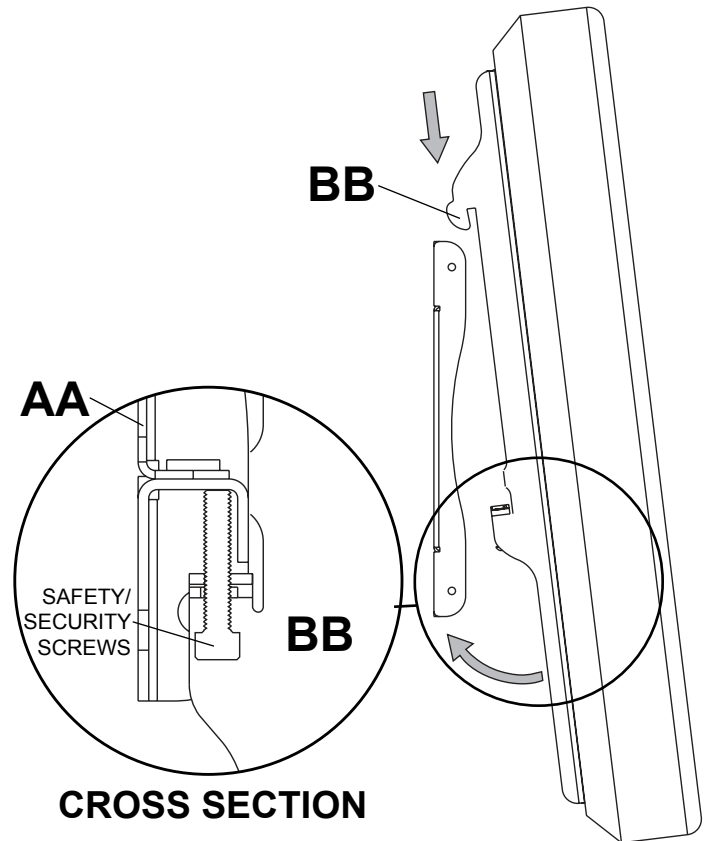
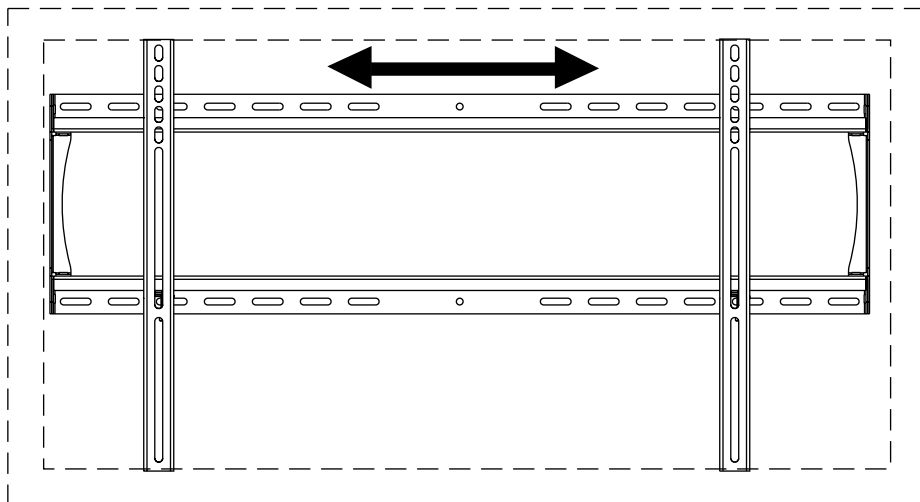

fig 3.1
fig 3.2
- 3** Hook adapter brackets (**BB**) onto wall plate (**AA**). Then slowly swing screen in as shown. Turn safety/security screws, using security allen wrench (**FF**), clockwise at least six times to prevent screen from being removed as shown in cross section of fig. 3.1. Screen can be adjusted horizontally if desired as shown in figure 3.2.